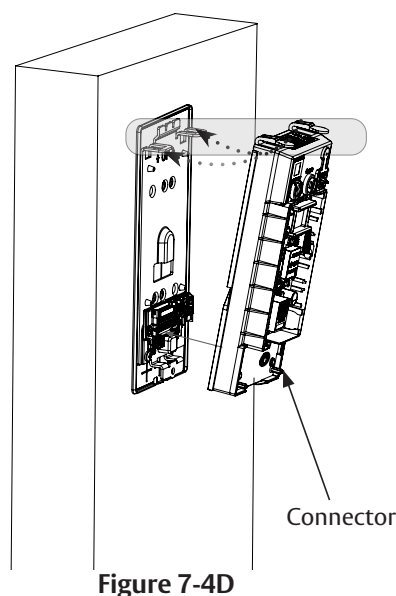
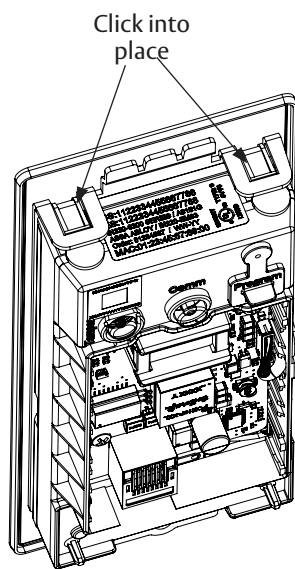

Figure 7-4D
Figure 7-4E
1. Insert bottom tab of controller (ensure a clear path) into slot on mounting plate (Figure 7-4D, Figure 7-4E).
2. Ensure proper alignment of board-to-board connectors (Figure 7-4D) while pivoting controller toward door until two tabs on top click securely into place on mounting plate. (Figure 7-4D)